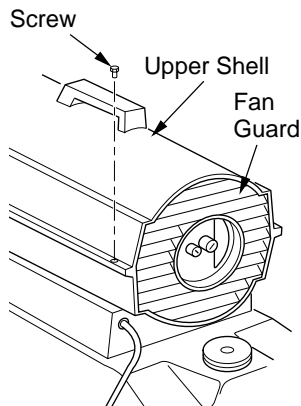

Figure 4 - Upper Shell Removal
1. Remove screws along each side of heater using 5/16" nut-driver. These screws attach upper and lower shells together. See Figure 4.
1. Remove upper shell (see Figure 4).